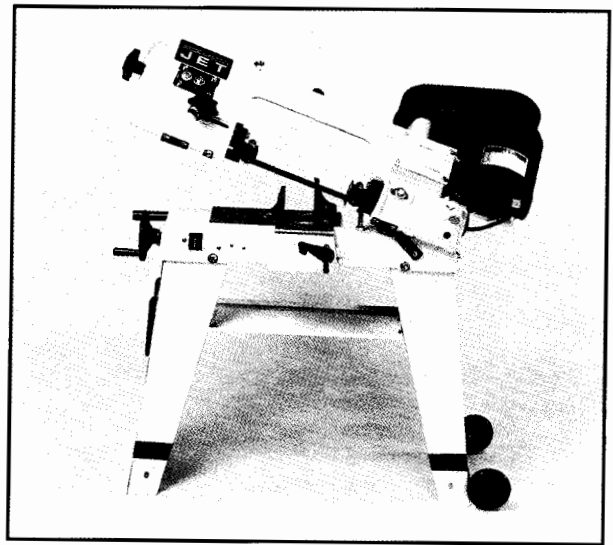

Fig. 1
6. Carefully lift unit onto stand feet. Machine should appear as in Figure 1.